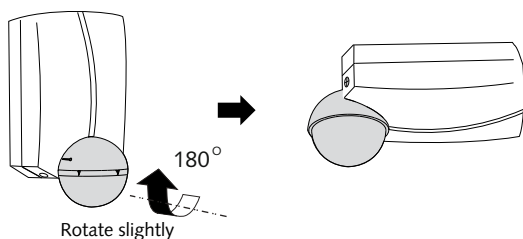

Fig. 14
1. To rotate clockwise 180° of detector head for ceiling mount (See Fig. 14).